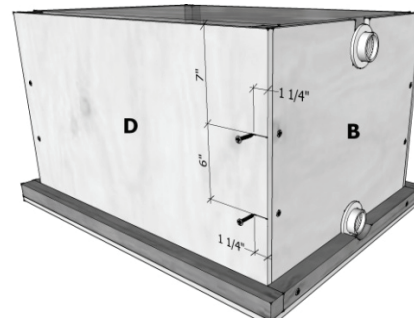

Fig. 6 – Liner and final panel are fastened to rest of sides, screws placed 1 1/4" from edge.
- b. **Using 4) 1⁵/₈" screws, fasten** panel/liner assembly from last step **very carefully**. (i.e. don't screw through or pinch the liner) (fig. 6)